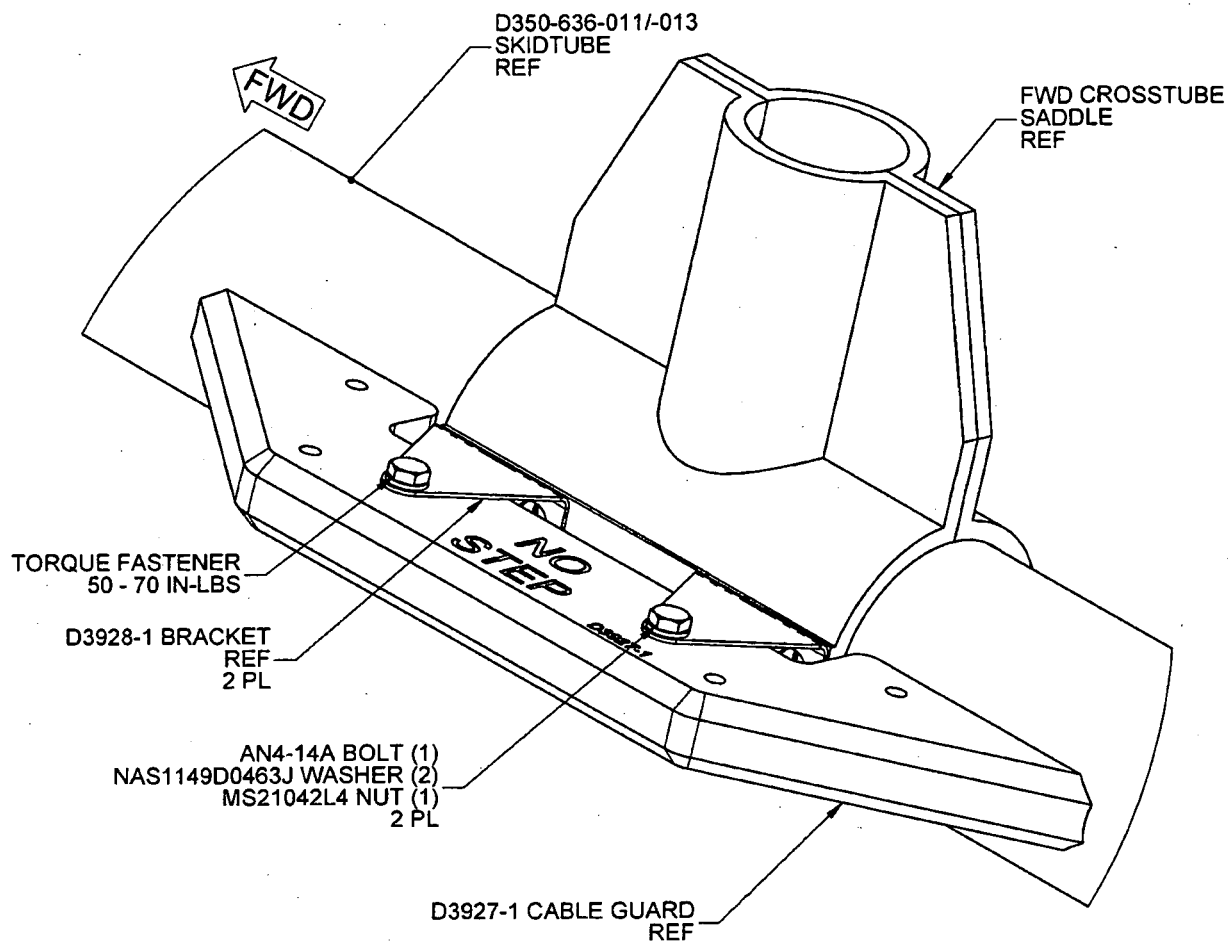

FIGURE 2: D350-636-107A FWD CABLE GUARD KIT
- 6) Install the D3927-1 forward cable guard into the brackets using the hardware as shown in Figure 2 Sheet 3.